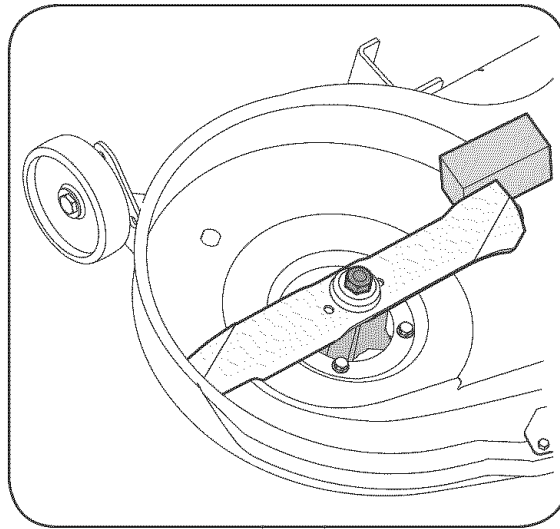

Figure 16
2. Place a block of wood between the center deck housing baffle and the cutting blade to act as a stabilizer. See Figure 16.
3. Use a 15/16" wrench to remove the hex flange nut that secures the blade to the spindle assembly. See Figure 16.